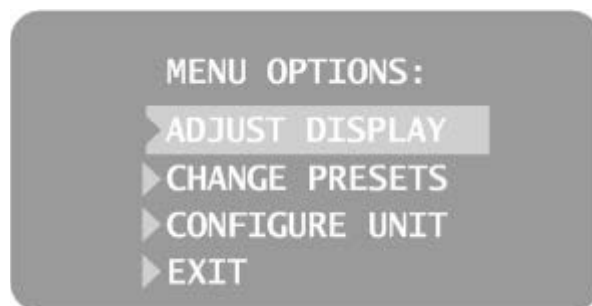
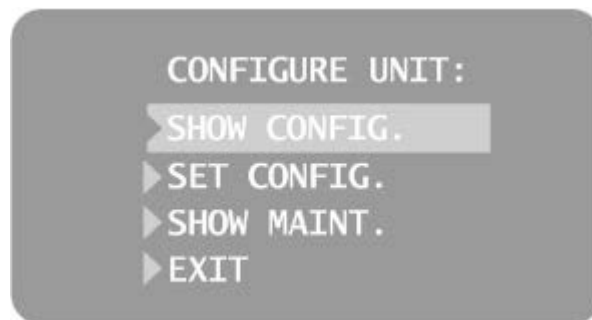
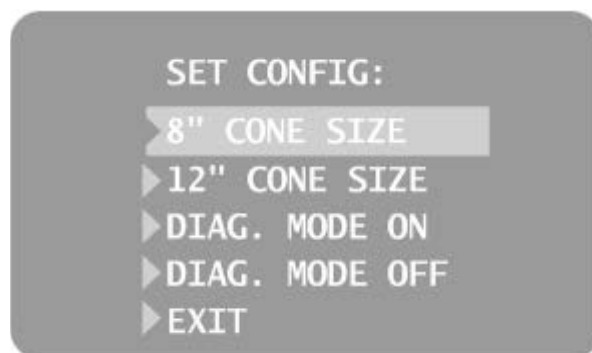

Figure 47
Figure 50
Figure 51
1. To enter system configuration mode, press the Tooth Selection and Patient Size Selection buttons on the Operator Panel simultaneously for 5 seconds. The display shows the Main System Configuration menu, as shown in *Figure 47*, and the Ready Indicator blinks.
1. From the Main System Configuration menu, *Figure 47*, select ADJUST DISPLAY. You will see the Display Options menu shown in *Figure 48*.
Displaying the Change Presets Menu	<ol style="list-style-type: none"> 1. From the Main System Configuration menu, Figure 47, select CHANGE PRESETS. You will see the Preset Options menu shown in Figure 49. 2. Selecting EXIT returns the display to the Main System Configuration menu.
1. From the Main System Configuration menu, Figure 47, select CONFIGURE UNIT. You will see the Configuration menu shown in *Figure 50*.
Selecting SET CONFIG from the Configuration menu, *Figure 50*, displays the Set Configuration menu, *Figure 51*, with options to change the cone size. The VetPro® DC Animal Health Dental X-ray System is preset for use with the standard supplied 8" (20 cm) Cone. The 12" (30 cm) Cone (30-A2033) is available. Using the longer Cone requires longer exposure times, which the VetPro® DC automatically selects when you change the Cone size in the Set Configuration menu.
1. From the Main System Configuration menu, *Figure 47*, select CONFIGURE UNIT. You will see the Configuration menu shown in *Figure 50*.
2. Select SET CONFIG. You will see the Set Configuration menu, shown in *Figure 51*.
3. Select the SET CONFIG option. You will see the Set Configuration menu, *Figure 51*.
4. Press the down arrow to highlight the DIAGNOSTIC MODE ON option, and press Enter. You will see the Configure Unit menu, *Figure 50*.
5. Press the down arrow to highlight the Exit option, and press Enter. This displays the Menu Option screen, *Figure 47*.
2. Press the down arrow to highlight the CONFIGURE UNIT option, and press Enter. This displays the Configure Unit menu, *Figure 50*.
3. Press the down arrow to highlight the Set Configuration option, and press Enter. You will see the Set Configuration menu, *Figure 51*.